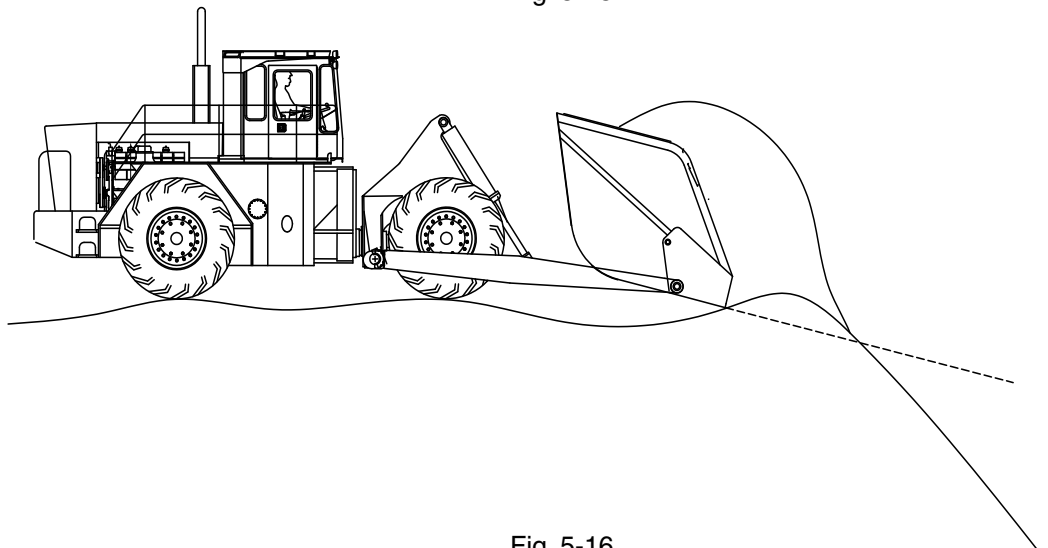

Fig. 5-16
3. Building a road off a pile. See Fig. 5-16